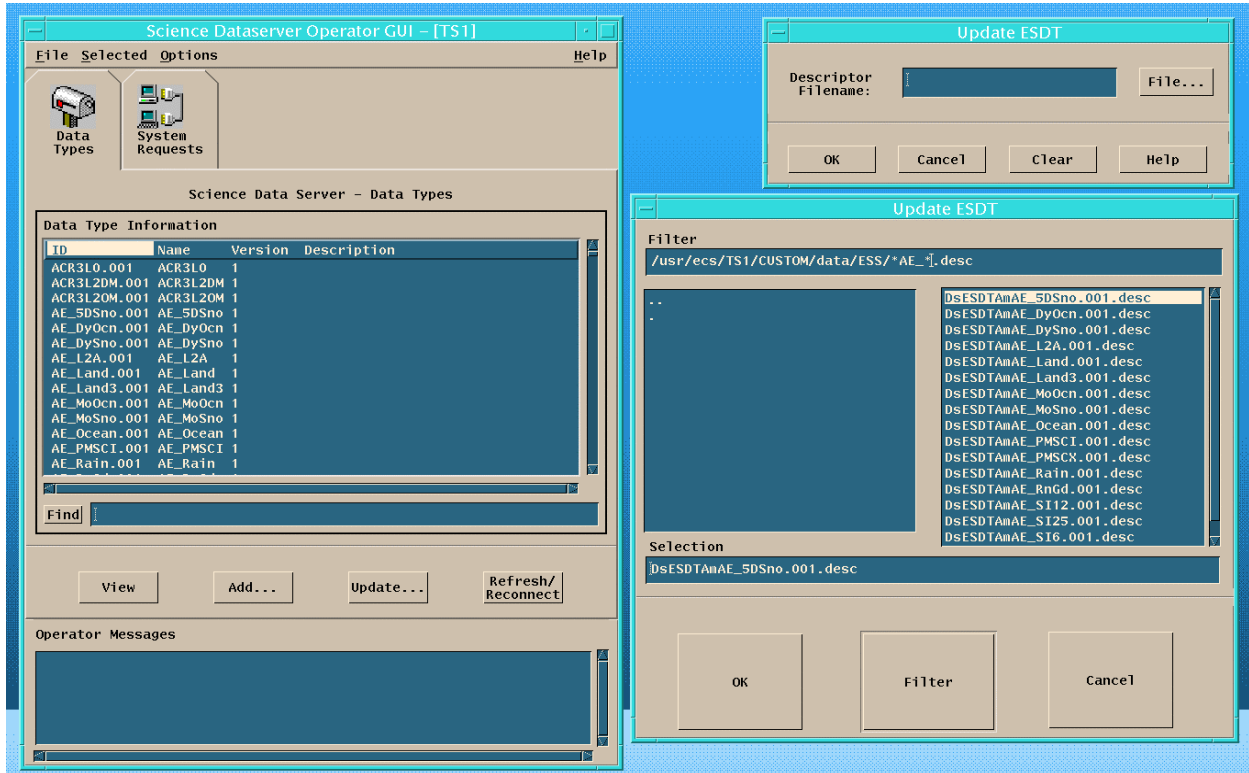

Figure 26.11.4.1-1. Updating An ESDT - The GUIs Involved
- This brings up the Science Operator Dataserver Gui GUI. Refer to figure 26.11.4.1-1
- This brings up the small "Update ESDT" GUI. Refer to figure 26.11.4.1-1
- This brings up the large "Update ESDT" GUI. Refer to figure 26.11.4.1-1